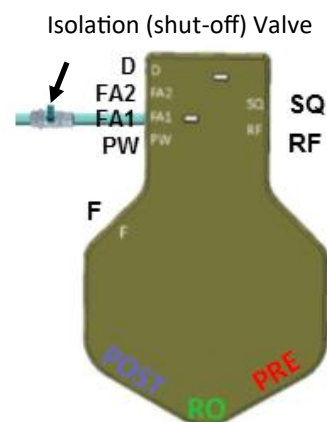

Figure 6
- Make sure that a 3/8" isolation/shut-off valve is installed at the system in the icemaker line and easily accessible under the sink cabinet (Figure 6).